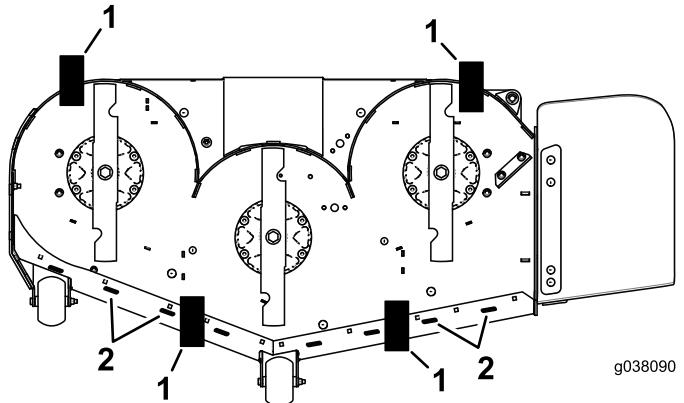

Figure 101
- 11. Place 2 blocks (see Block Height and Rake Table) under the rear edge of the cutting deck skirt; 1 on each side of the cutting deck (Figure 101).